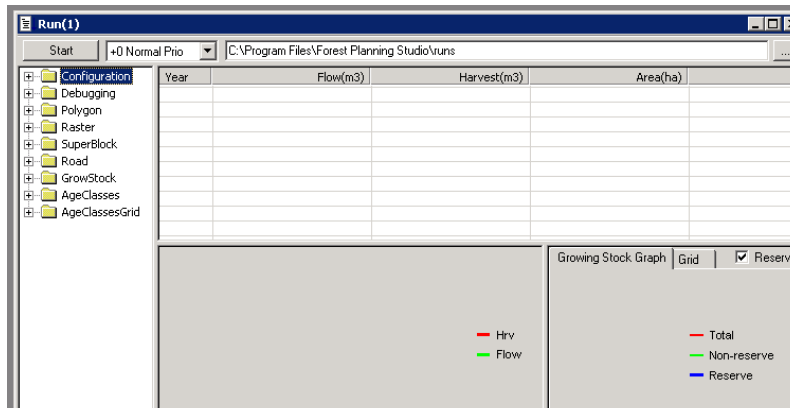

Figure 13: Run window
- 2.4.1 To initiate a run, click the *Run* icon in the *Toolbar*. A window the same as Figure 13 should appear.